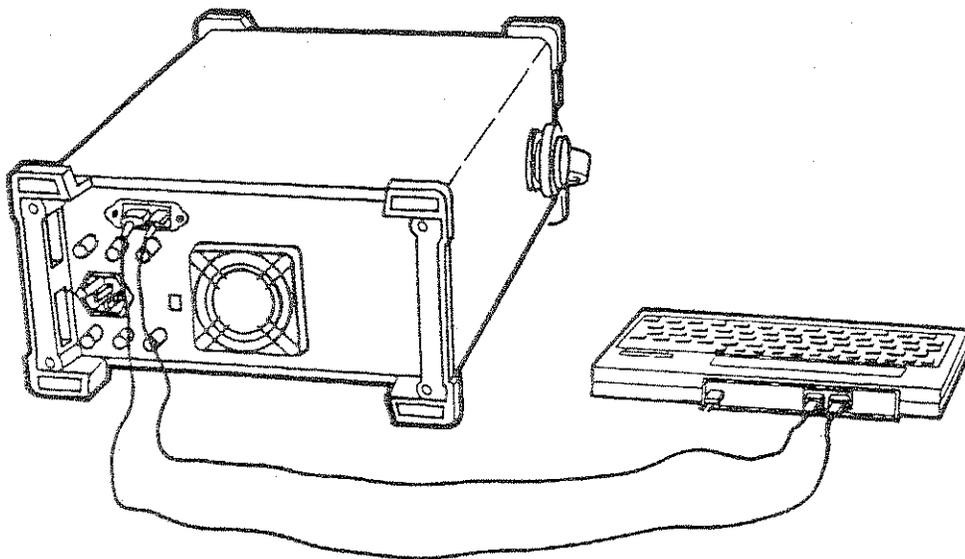

Figure 1-7
2. Using the two HP-IL cables, connect the analyzer to the computer, as shown in Figure 1-7.